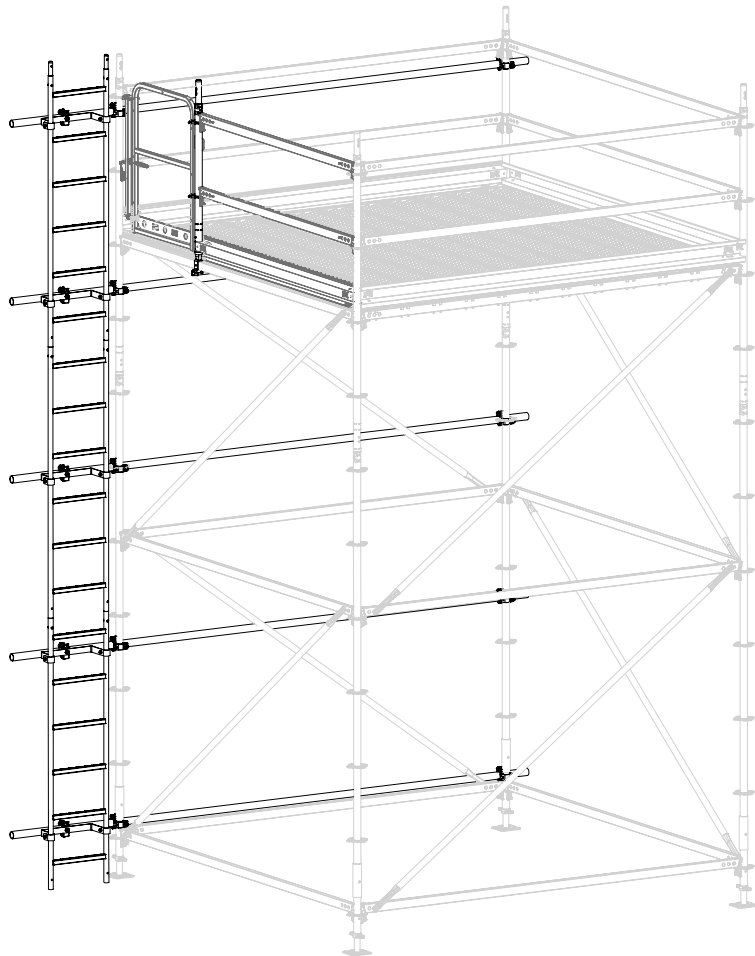

Fig. A9.08d
- Ladder is installed. (Fig. A9.08d)